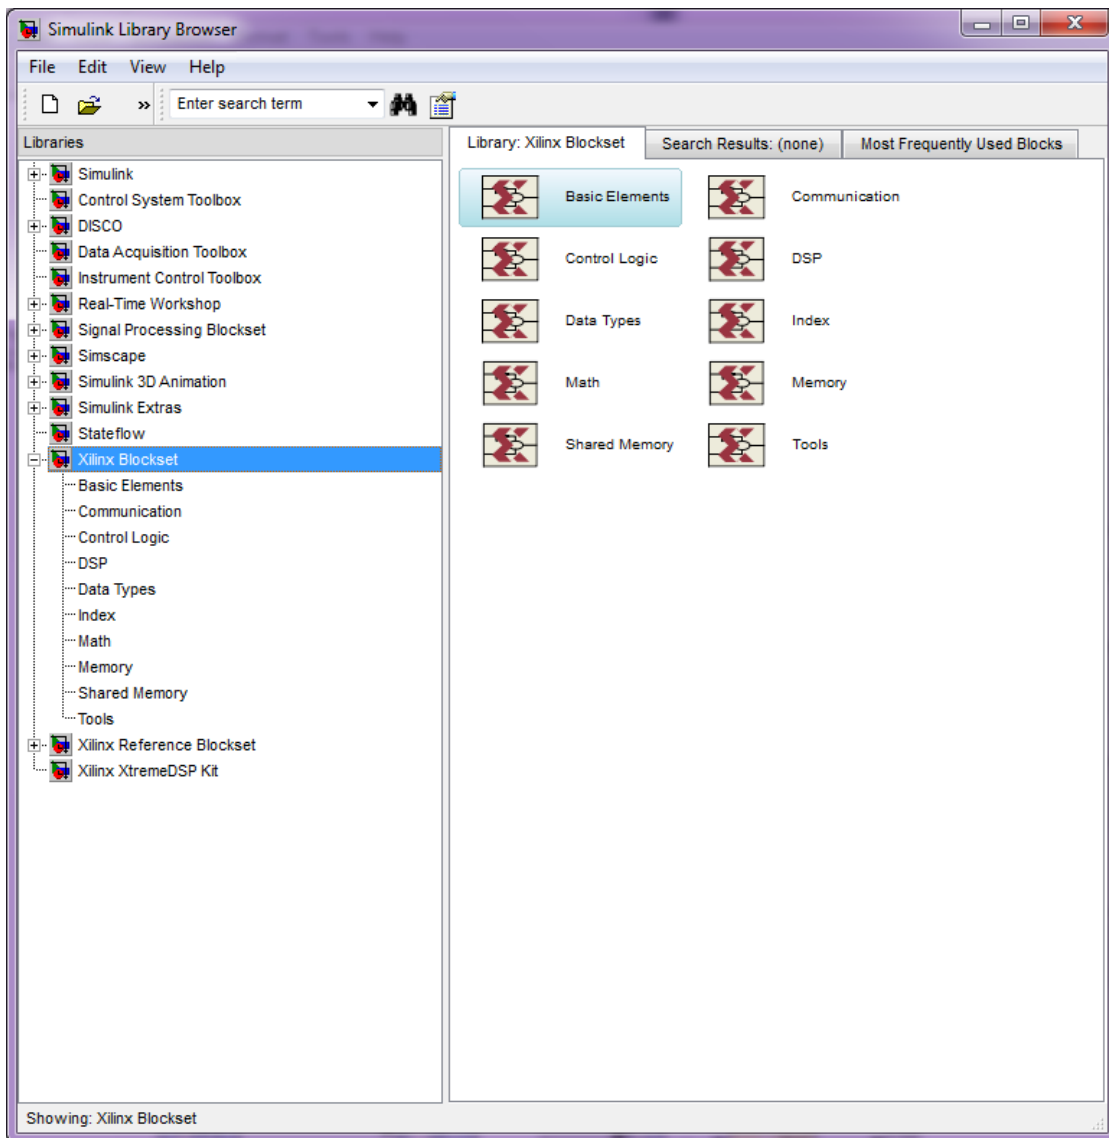

Figure 1: Simulink Library Browser
- All behaviour that is supposed to be translated into Verilog has to be designed between so called *Gateways*. You are limited to use only blocks from the Xilinx Blocksets—the whole blocks from Simulink or additional Toolboxes / Blocksets can't be used (exceptions are the In/Out-Ports and the Terminator). See Figure 1